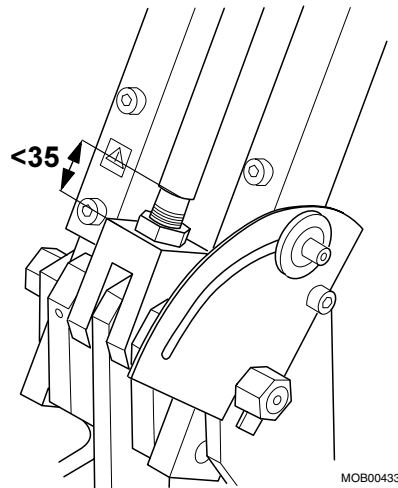

Fig. 42 Minimum distance
8. Make sure the distance shown in Fig. 42 is always less than 35 mm on both sides of the adjustment rod. Tighten the locking nuts slightly on the adjustment rod.
The distance shown in Fig. 42 must be less than 35 mm on both sides of the adjustment rod. If the distance is longer than specified, the single tank and the arm might fall.
Crosscheck the distance shown in Fig. 42. It must be less than 35 mm on both sides of the adjustment rod or the single tank and the arm might fall.